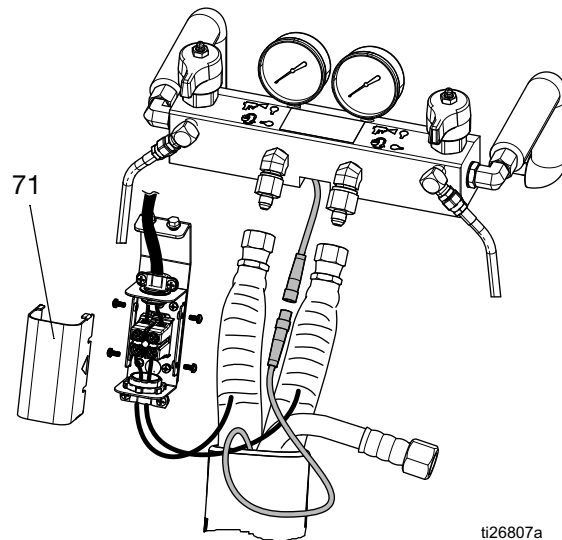

FIG. 71: Heated Hose Electrical Junction Box
2. Remove cover (71). See FIG. 71.
3. Disconnect system wires (139) from the proportioner.
4. Disconnect hose wires from terminal block (AS).